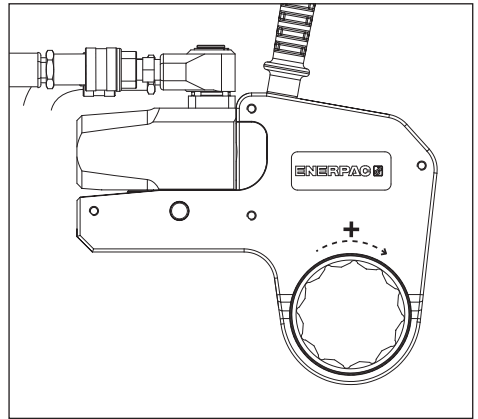

Fig. 7
4.3.1 Tightening a Nut or Bolt (Fig. 7 and 8)
- Position the reaction foot (17) against a suitable reaction point (18). The reaction point will counteract the force caused by operating the tool.